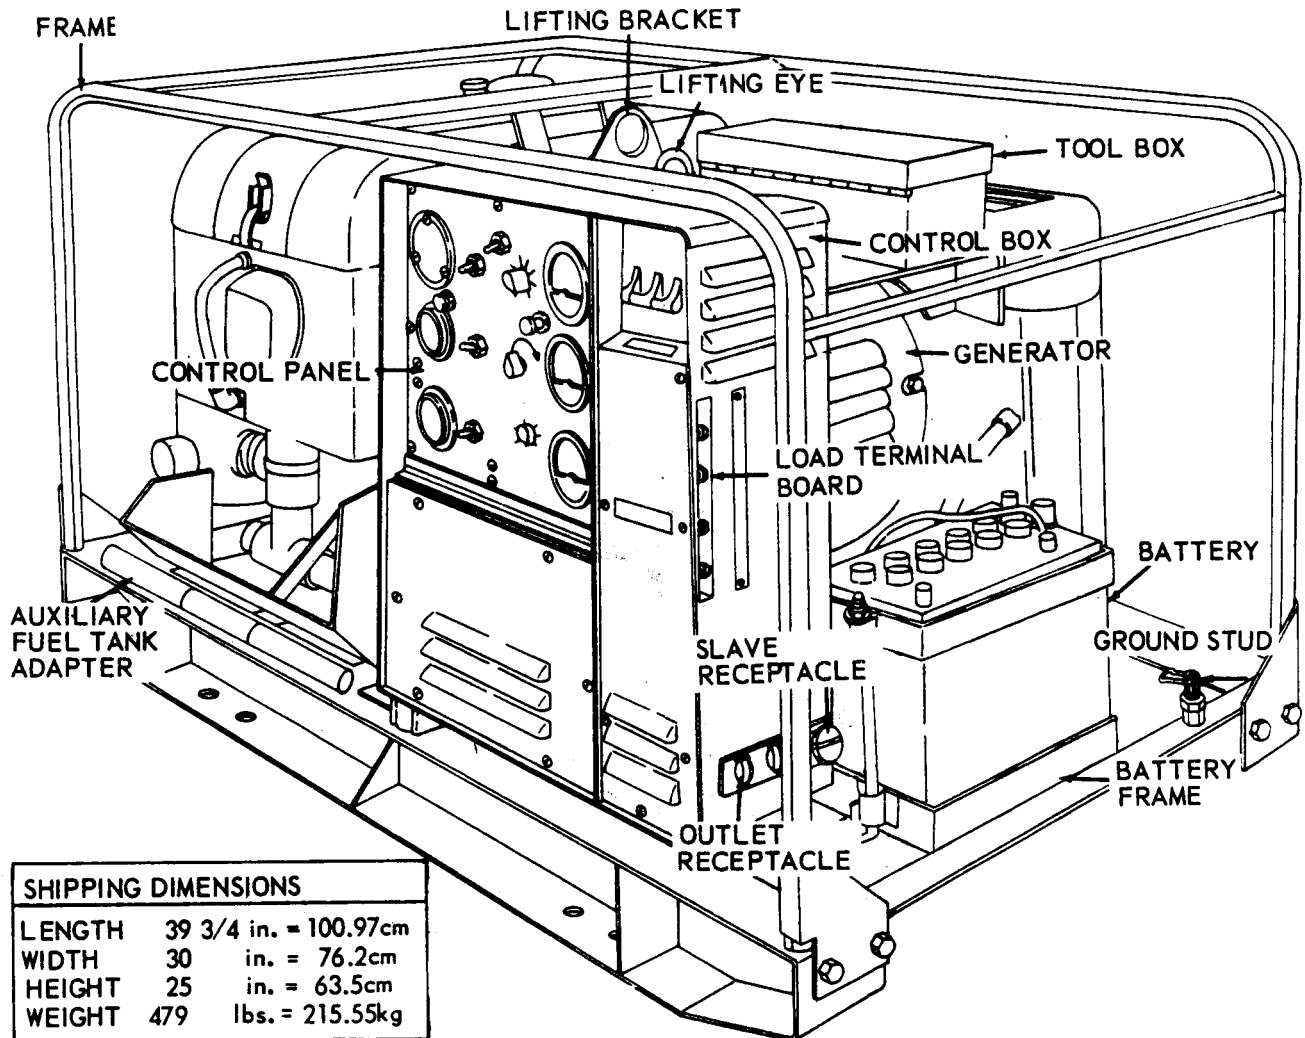

Figure 1-1. Generator set, left rear, three-quarter view (Model MEP-017A, 60 Hertz)
a. General. The Department of Defense generator sets, DOD model MEP-017A (fig. 1-1 and 1-2) and DOD model MEP-022A (fig. 1-3 and 1-4) are powered